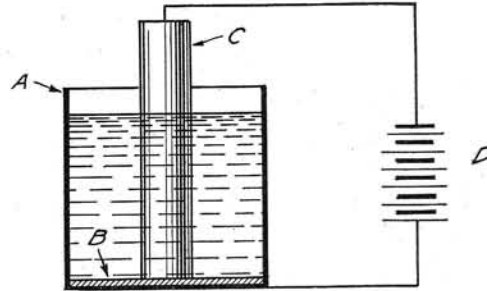

Fig. 1.
Referring to Fig. 1, A is a tin can; almost any size will do very well. In the bottom of the can is put a disc (B) of mica, celluloid, hard rubber or any insulator which is not affected by being immersed in water. C is as powerful a bar magnet as can be procured; it is better if it is of circular cross-section, as it will not interfere so much with the motion of the water.
The construction is shown in Fig. 1. The anode (a) is an aluminum pin surrounded by a protective tube (b). The lower end of the anode (a) is at a distance of a few millimeters from the cathode (c) which is a fused alloy of potassium or sodium. Current is supplied through platinum wires (d) and (e). The